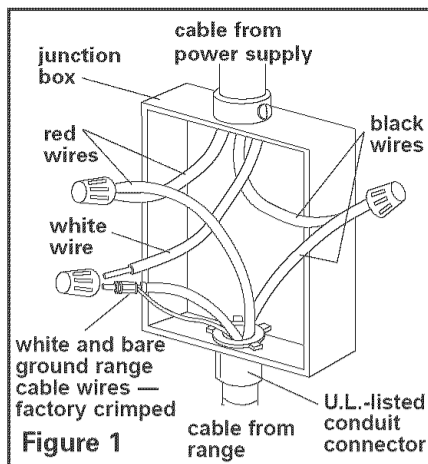

Figure 1
7. Connect the factory-cripped bare and white range cable wires to the neutral (white) wire in junction box. See Figure 1.